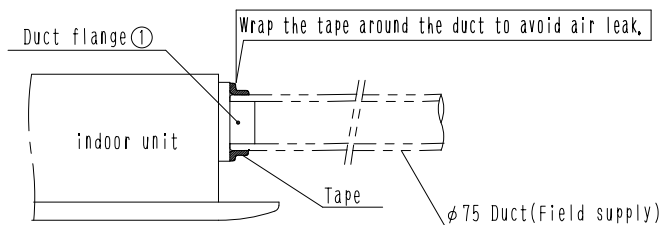

Fig. 4
1. Connect the duct to the duct flange. (Flange fits inside the duct.) (Fig. 4)